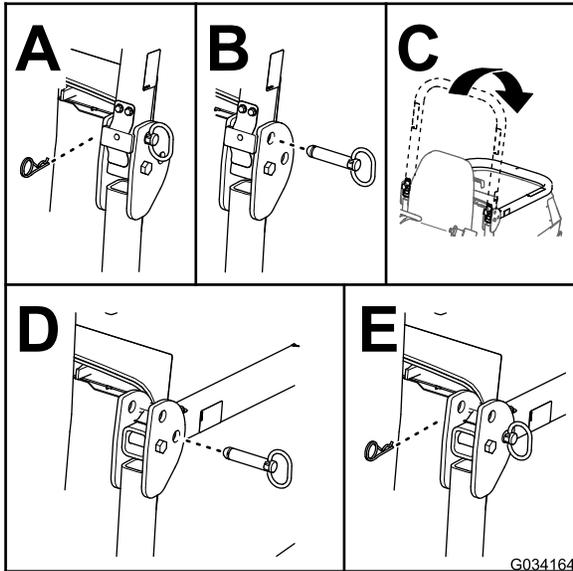

Figure 30
2. Remove the cotter pins and pins from the roll bar (Figure 30).
3. Lower the roll bar and secure it in place with the pins and cotter pins (Figure 30).